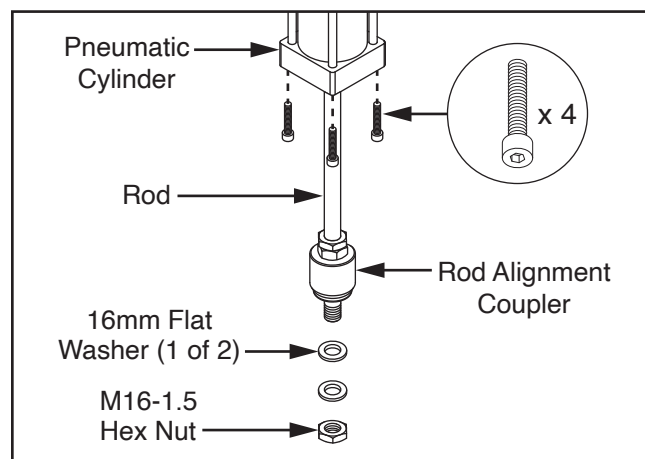

Figure 49. Pneumatic cylinder components.
22. Remove (1) M16-1.5 hex nut, (2) 16mm flat washers, and (4) cap screws pre-installed on end of pneumatic cylinder (see **Figure 49**).